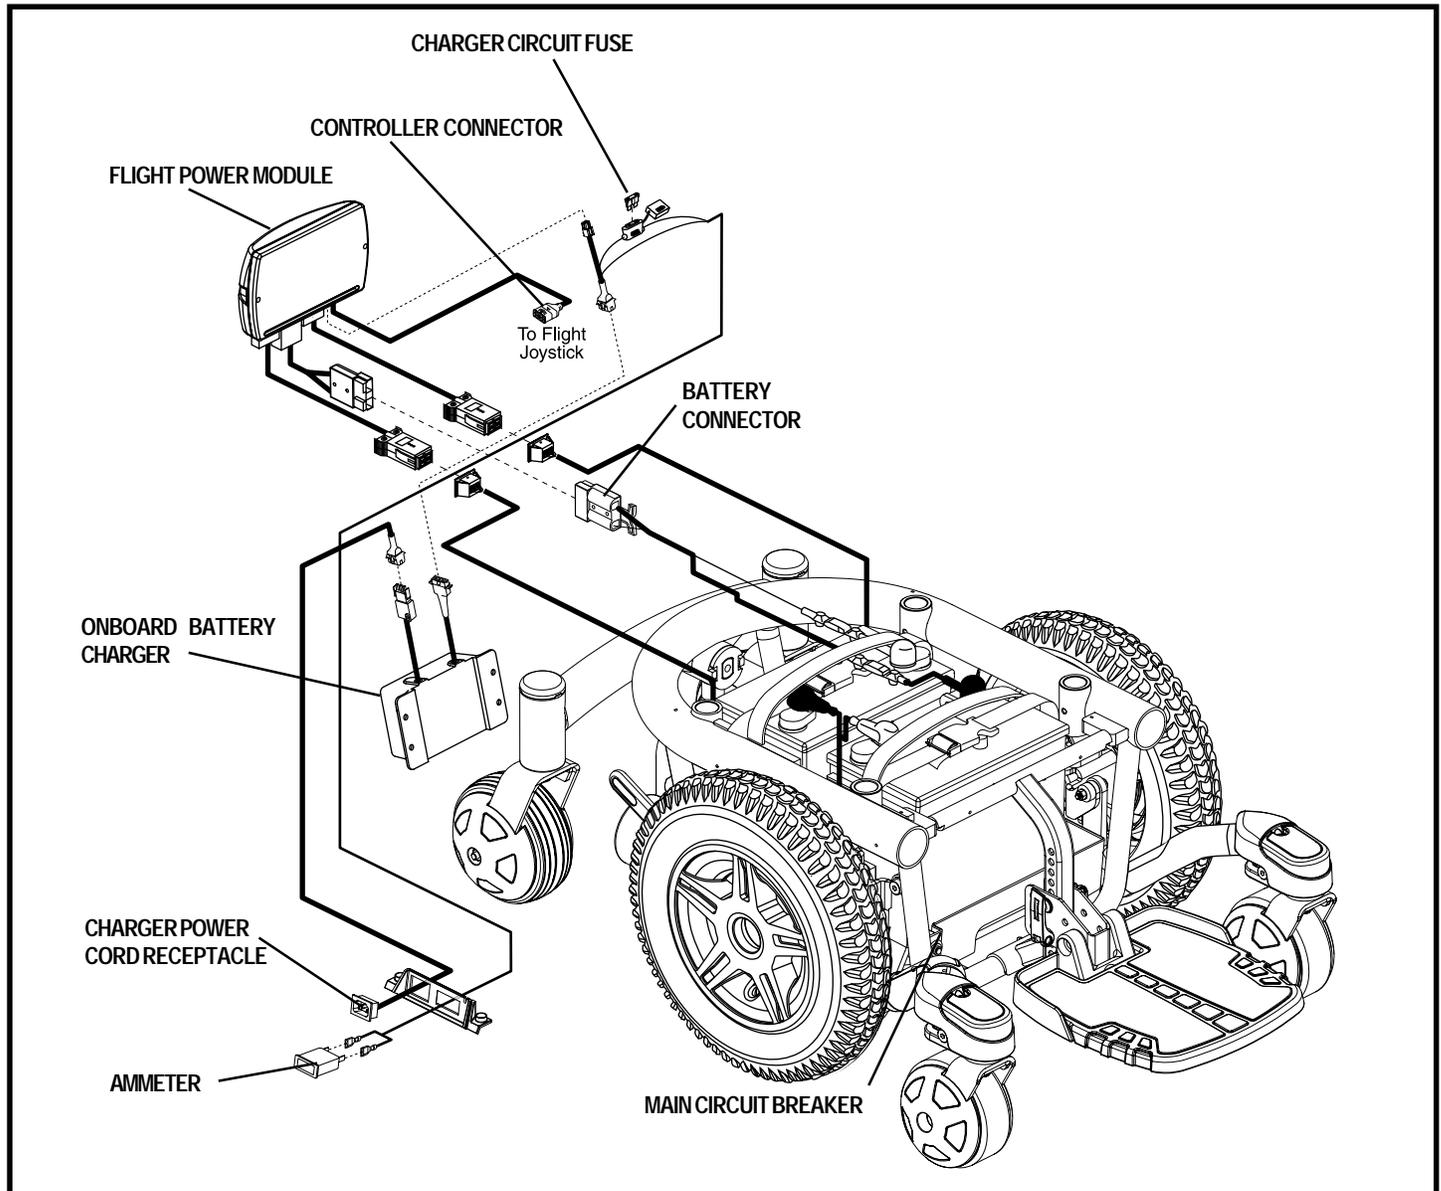

Figure 7. Jazy 600 XL Electrical Components
The electrical components are located inside the power base. The ammeter and the charger power cord receptacle are located on the right side of the power base. The main circuit breaker is located on the front of the battery tray. The controller connector(s) are located inside the power base. See figure 7.
8. Plug the controller connector(s) into the power base. See figure 7.
3. Disconnect the controller connector(s) from the power base. See figure 7.